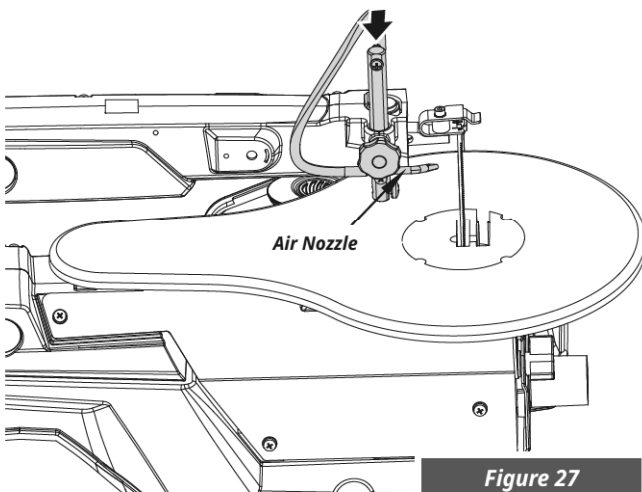

Figure 27
9. Lower the drop foot to the original working position. (See Figure 27)